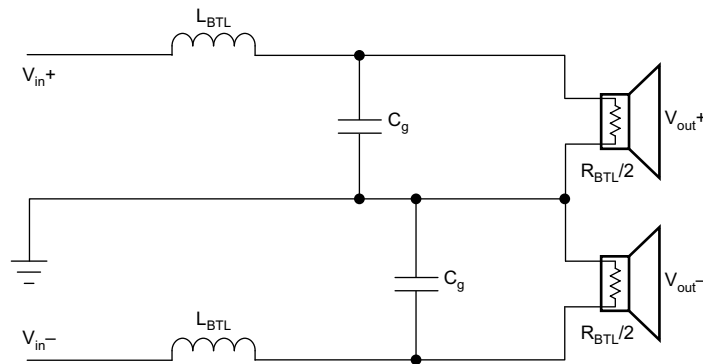

Figure 4. Equivalent Circuit for Analysis of the Differential Mode
* R_L becomes $R_L / 2$ to account for analysis of the differential mode. See Figure 4 for the equivalent circuit.